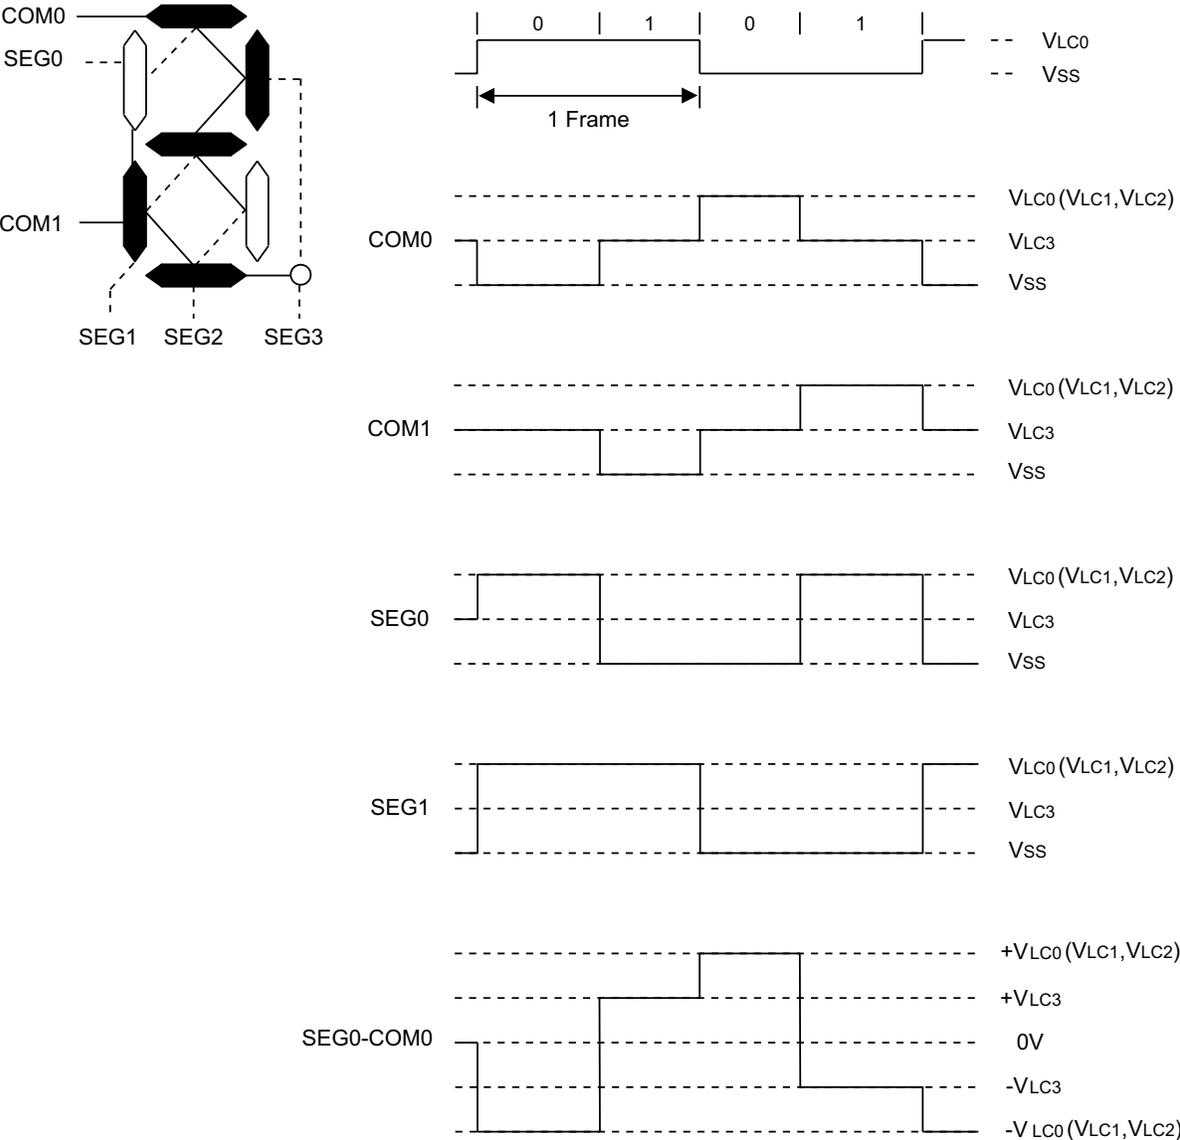

Figure 93. LCD Signal Waveforms: 1/2 Duty, 1/2 Bias
Figures 93 through 97 present waveforms of the LCD signal for differing duty and bias configurations.
► **Note:** In Figure 93,  $V_{LC0} = V_{LC1}, V_{LC2}$ .